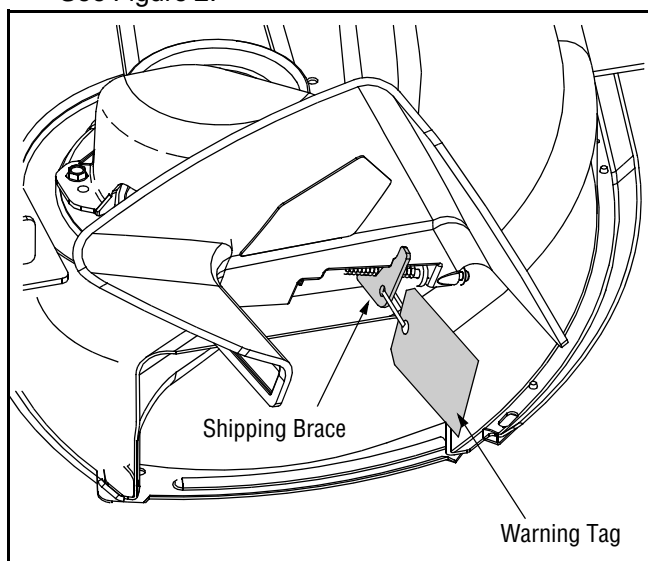

Figure 2
- Locate the shipping brace and accompanying warning tag found on the right side of the mower, between the discharge chute and the cutting deck. See Figure 2.